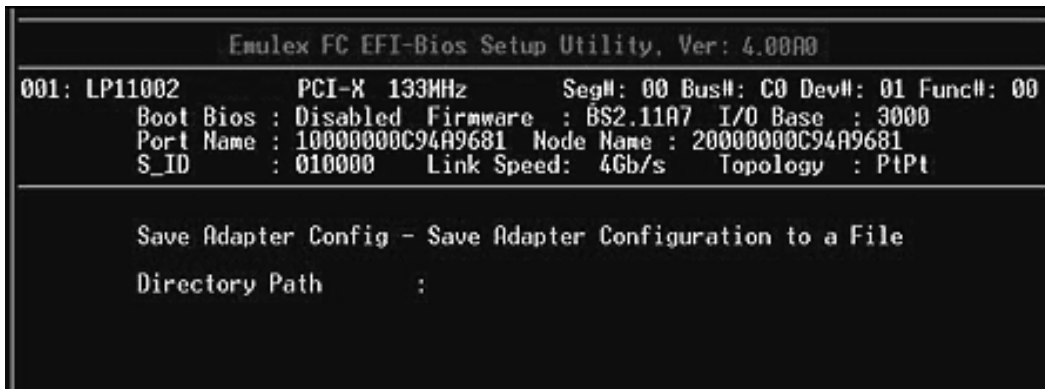

Figure 51: Save Configuration Path screen
1. On the Save Configuration menu, select **1. Save Configuration to File**. The screen shown in Figure 51 prompts you to enter a directory path to the file where the configuration is to be saved.